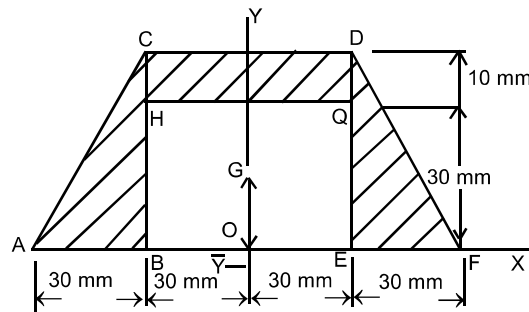

Fig. 1
1. (a) Determine the C.G. of the area shown by section lines in the diagram shown in Fig. 1 below. (10)